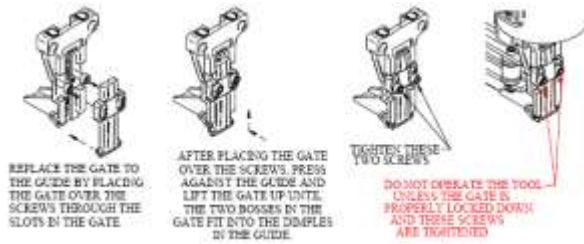

FIGURE 9
6. Replace the Gate by placing the Gate over the two Screws in the Guide as shown and press down and upward to seat and lock the Gate in place as shown in Figure 9. When properly seated, the Gate should not slide down. Make sure the Gate is properly resealed and tighten the two Screws.